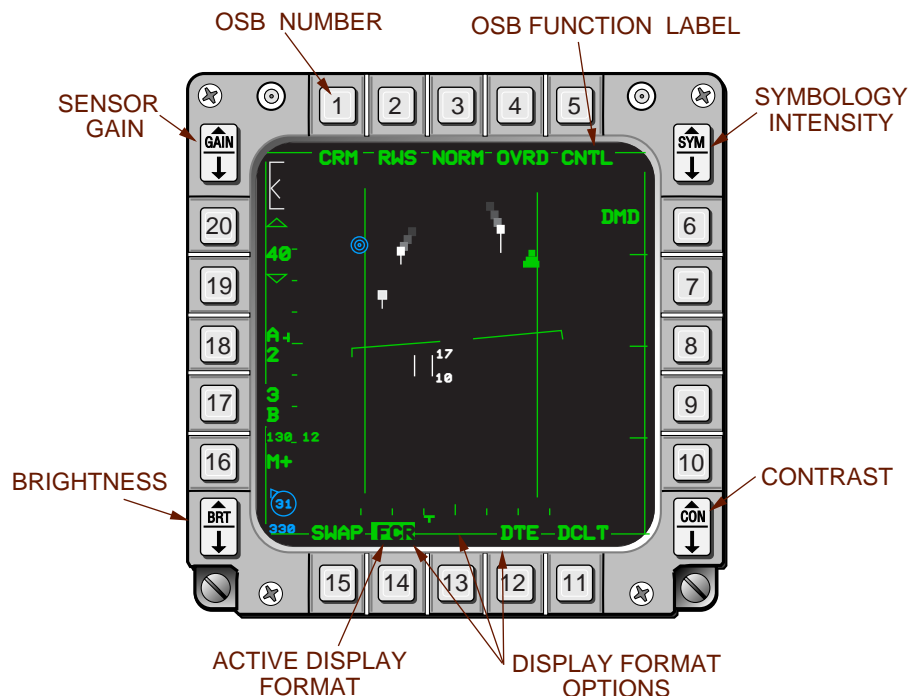

Figure 1-14 CMFD Controls
**Option Select Buttons (OSBs).** The OSBs are numbered from the top left of the bezel, clockwise around the bezels from 1 through 20 (Figure 1-14). They are programmed to perform specific single or multiple functions for each CMFD format. Each function is identified by a mnemonic displayed adjacent to the OSB. A rotary switch approach is used in situations where an OSB is programmed to provide access to less than five functions. Alternately depressing the OSB selects the functions and displays the appropriate mnemonic in sequential order. In situations requiring access to five or more functions, depressing the OSB will display a dedicated menu page which makes all 20 OSB's available for various tasks. Unlabeled OSBs with the exception of OSB 12, 13, and 14 have no function.
**Symbology Intensity, Brightness, and Contrast Controls.** Three rocker switches on each CMFD bezel are used to adjust the display Symbology intensity, Brightness, and Contrast (SBC) levels (Figure 1-14). The Symbology intensity (SYM) switch is on the upper right portion of the bezel. The Contrast (CON) and Brightness (BRT) controls can be found on the lower right and left portions of the bezels, respectively. Depressing and holding the upper half of the switch increases settings while the lower half decreases settings. The rate of change for each switch is approximately 5 seconds from maximum to minimum settings.